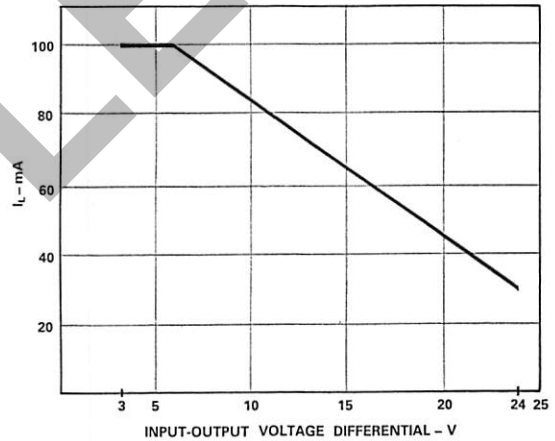
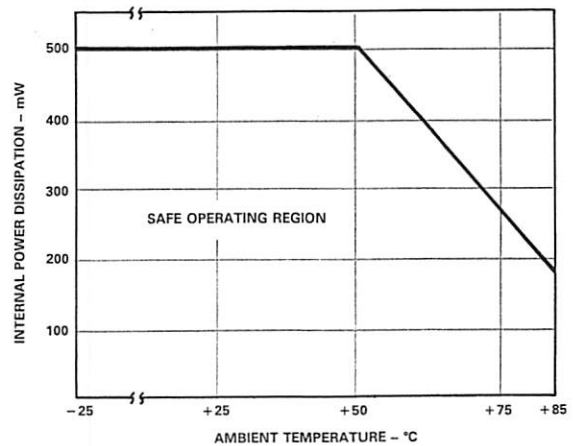

Figure 12. Excitation Source Load Current vs. Input-Output Voltage Differential, ≤25°C
Figure 13. Excitation Source Internal Power Dissipation vs. Temperature
**Bridge Excitation:** The adjustable bridge excitation is specified over a wide regulator input voltage range (+9.5V to +28V). Maximum load current  $I_L$  as a function of regulator input-output differential voltage is shown in Figure 12. The maximum output current also depends on ambient temperature, and above +50°C a derating factor of 2mA/°C must be applied. The safe operating region for internal power dissipation vs. temperature is graphed in Figure 13.